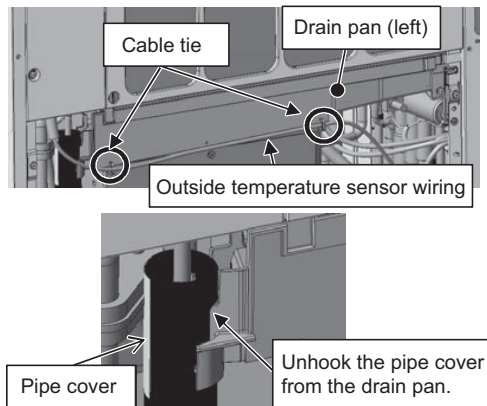

Figure 3
Be sure to remove the two rod holders holding the check joints to the drain pan. (See Figure 3.)
- (2) Remove the external temperature sensor wiring from the left drain pan by cutting the two cable ties. (See Figure 3.)
Unhook the pipe cover from the left drain pan. (See Figure 3.)